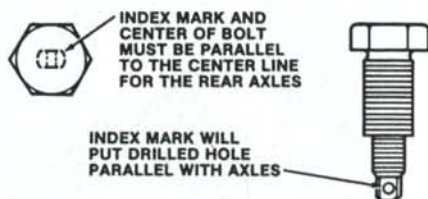

Fig. 206—When installing detent spring retainer the drilled hole faces front and rear of tractor.
Reassemble park lock as follows: Use new gasket (9) and install retainer (8) in top of transmission housing and when retainer is tightened, index mark on center of bolt (retainer) must be parallel to centerline of rear axle. Drilled hole in lower end of retainer should also be parallel to centerline of axles. See Fig. 206. Install detent spring (10—Fig. 205), washer (11) and nut (4) on retainer but do not tighten nut (4) at this time. Install snap ring (13) on outer end of shaft (14) and start shaft into transmission housing. Install needle bearings (16 and 21) and short spacers (17 and 20) into shaft bore with spacers next to carrier (18), hold cam carrier and following cam in place with detent notch up and push shaft through cam carrier. Install long spacer (22) and snap ring (23). Install Woodruff key (15), lever (24) and snap ring (25). Lever (24) is correctly installed when it faces downward and toward rear of tractor. Use Loctite 242 or equivalent on set screw (19), install set screw and be sure it seats on flat of shaft (14). Tighten set screw to 35-45 ft.-lbs. (47-61 N·m) torque. Remove nut (4) and washer (11), apply Loctite 242 or equivalent to threads of nut (4), then reinstall washer and nut and tighten nut